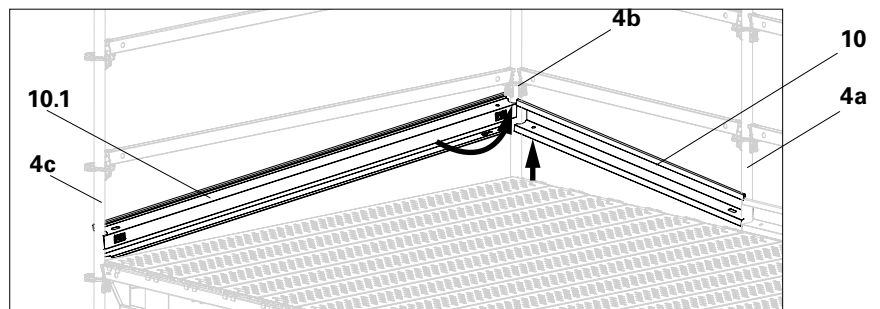

Fig. A2.18a
2. Pivot the Toeboard UPY (**10**) in the direction of the second Standard UVR (**4b**). (Fig. A2.18a)
1. Place Toeboard UPY (**10.1**) with recess (**10a**) obliquely on the Standard UVR (**4c**). (Fig. A2.18a)
2. Pivot the Toeboard UPY (**10.1**) in the direction of the second Standard UVR (**4b**). (Fig. A2.18a)
3. Semi-circle (**10c**) must be positioned on the axis of the Standard UVR (**4b**). (Fig. A2.18a)
4. Lift the second Toeboard UPY (**10**) on one side. (Fig. A2.18a)